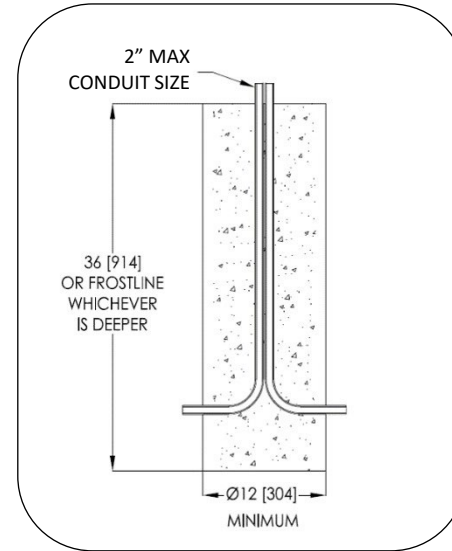
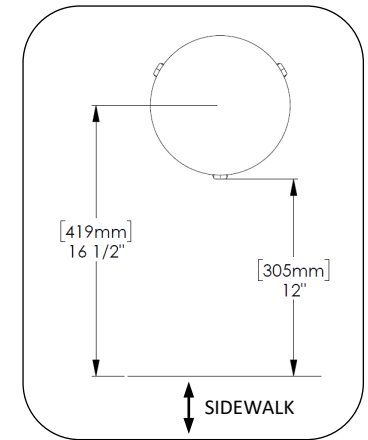

FIG. 1 – MINIMUM FOOTING RECOMMENDATION
FIG. 2 – RECOMMENDED SETBACK FROM SIDEWALK
1. Prepare footing as required by local codes, see Fig. 1 and Fig. 2 for recommendations.